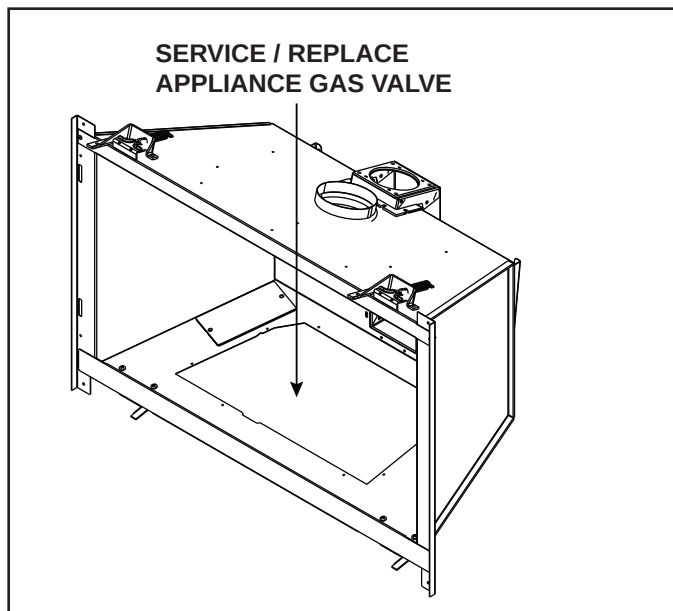

Figure 6.5 Gas Valve Detail
- See Figure 6.5.
- Remove appliance front, glass, logs, base pan assembly, burner assembly and valve plate assembly. See Figure 6.5.